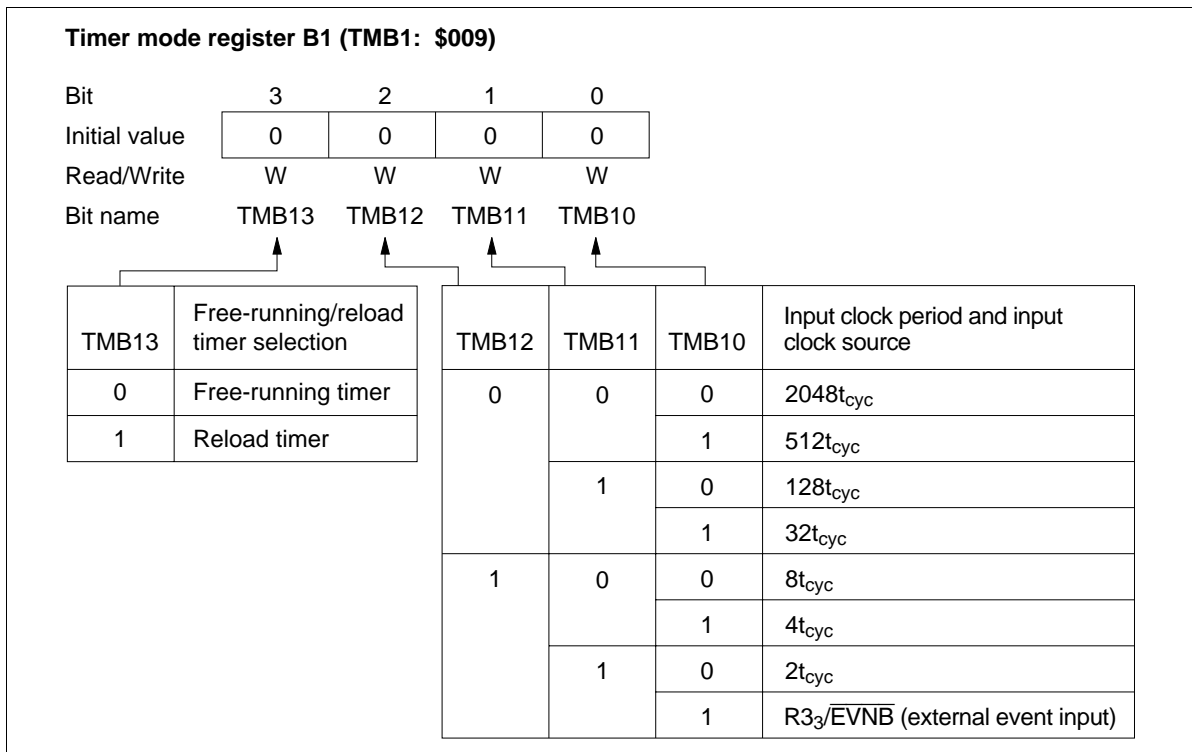

Figure 45 Timer Mode Register B1 (TMB1)
- Timer mode register B1 (TMB1: \$009): Four-bit write-only register that selects the free-running/reload timer function, input clock source, and the prescaler division ratio (figure 45). It is reset to \$0 by MCU reset.